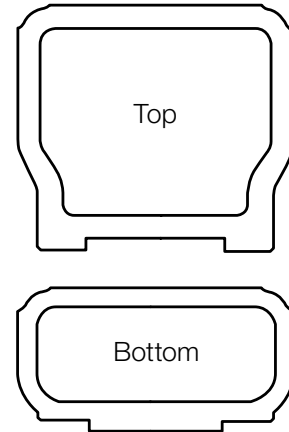

fig. 1
- One Classic stair rail kit (fig. 1), which contains: